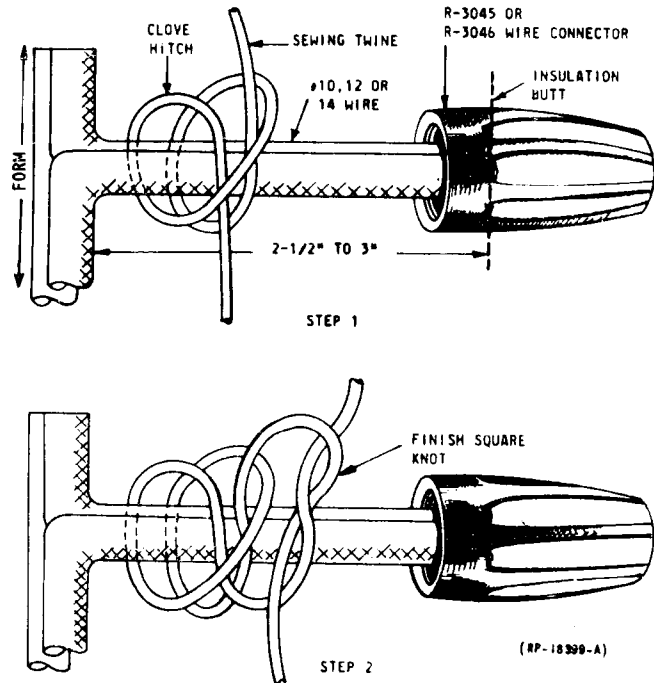

FIG. 2 METHOD OF TYING SPLICE ON SMALL BATTERY DISTRIBUTING LEADS (PAR. 4.22)
4.22 After assembly as covered in Paragraph 4.4 place a tie around all wires in each wire connector 2-1/2 inches to 3 inches from the connection. Using sewing twine, secure with a "clove hitch" and a "single tie" forming a square knot." See Figure 2. After completion, fold the splice parallel with form and include under stitches if sewed or banded. Always leave the wire connectors on the outer surface of forms.
4.41 Figure 2 shows the simplest splice when joining two wires together with these wire connectors.